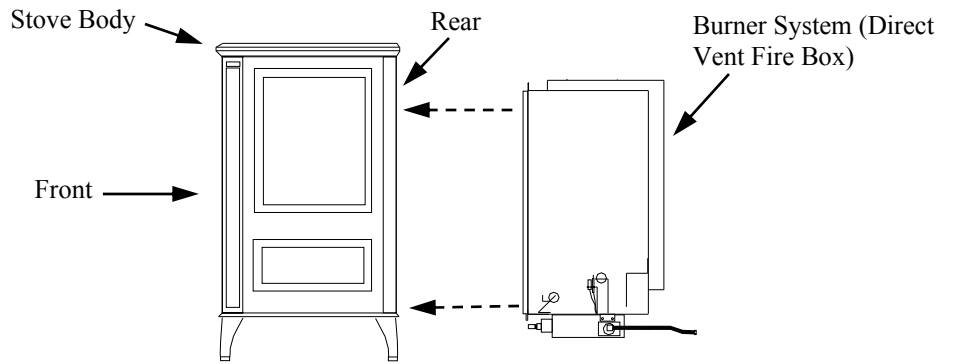

Figure 13-Installing Burner System into Cast Stove body.
2. Carefully lift the burner system and place it into the stove body from the rear of the stove (see figure 13).
3. Slide the burner system to the front of the stove body (see figures 13 and 14).